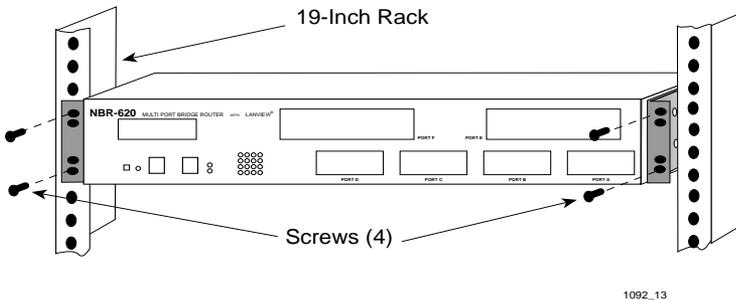

Figure 3-9 Installing the NBR in the Rack
3. With the mounting brackets attached, position the NBR between the vertical frame members of the 19-inch rack and fasten it securely with the mounting screws. See Figure 3-9.